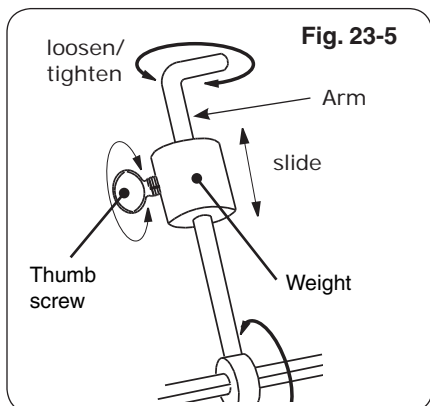
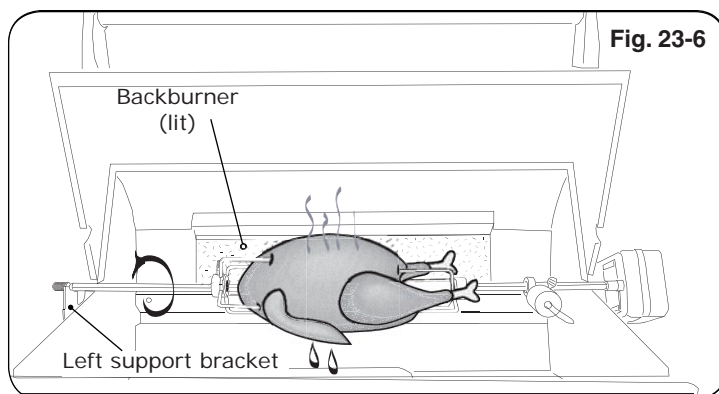

Fig. 23-5
Fig. 23-6
7. Slide the counterbalance weight up or down the arm until the rod rotates most evenly then tighten thumb screw (Fig. 23-5 and Fig. 23-6).